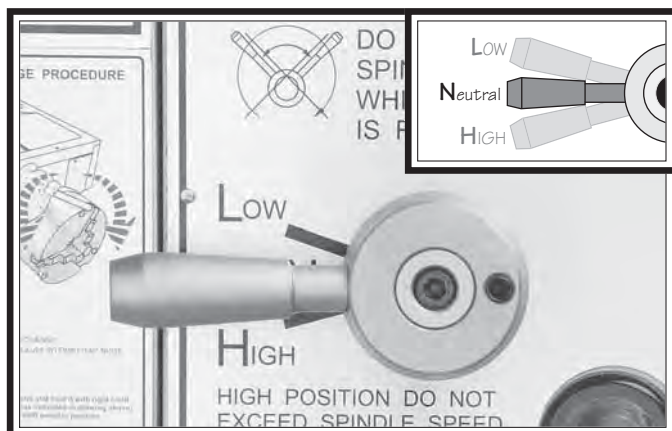

Figure 19. Gearbox range lever in middle position.
8. Move the gearbox range lever to the middle (neutral) position, as shown in Figure 19.